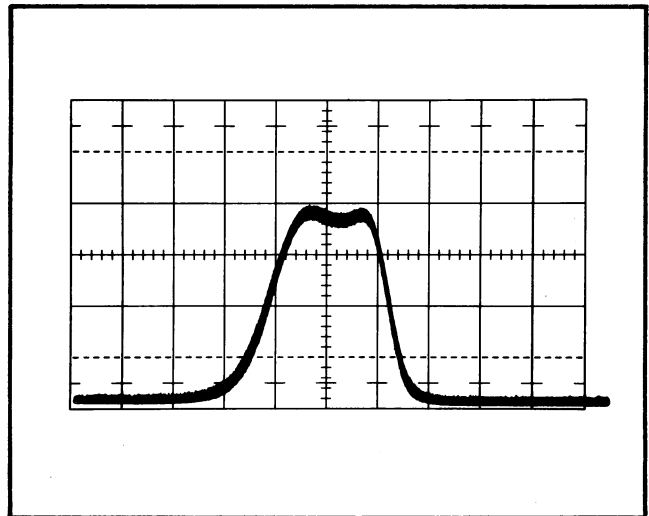

Fig. 5-3. I.F. Response waveform.
5. Adjust C601, C602, L301, T203, and T204 for a symmetrical waveform with a flat top (see Fig. 5-3). The dip shown in the middle of the waveform is not necessarily required and should not exceed 3 db below the top of the waveform.